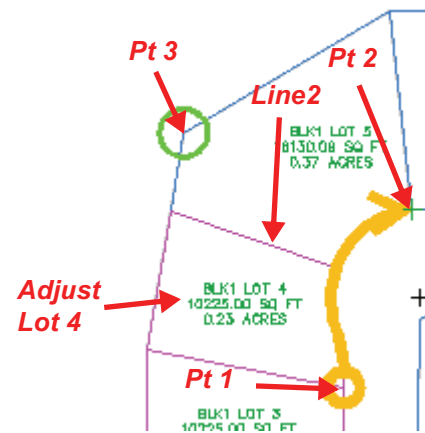

Figure 2–42
17. When prompted for the *swing point*, select the end point of **pt3**, as shown in Figure 2–42.